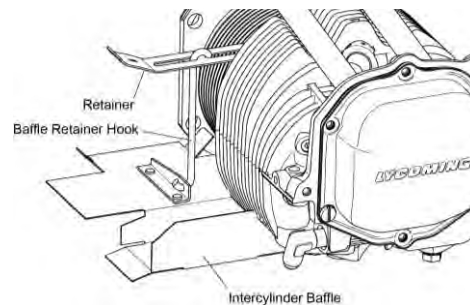

Figure 4
- C. Remove the oil pump drive shaft from impeller B (Figure 4).on the oil pump.
- B. Install impellers A and B in their respective compartments in the oil pump body (Figure 4).
- C. Install the oil pump drive shaft into the oil pump body and through impeller B (Figure 4).
- (1) Turn the baffle retainer hook to disengage the retainer on the intercylinder baffle (Figure 4).
- (2) Remove the intercylinder baffle and hook from between the cylinders.